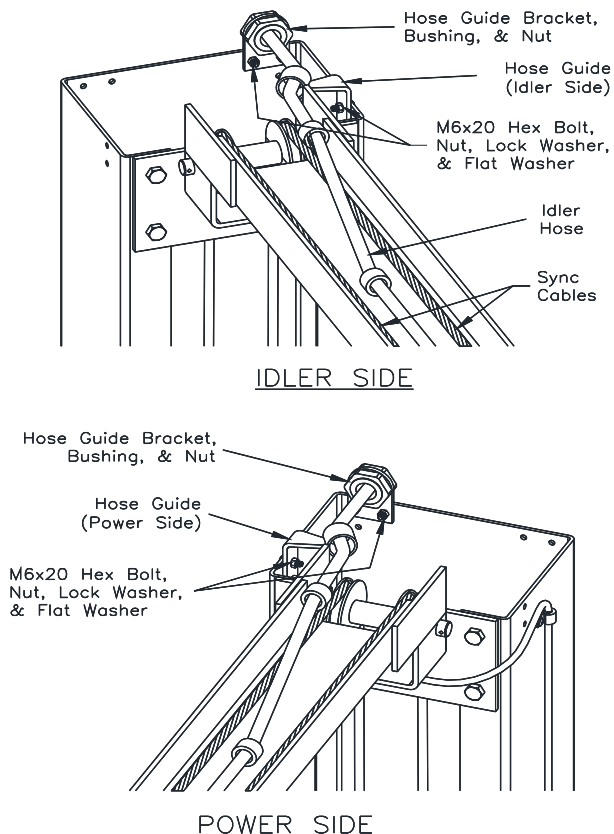

**Fig. 7 – Hose Routing**
- Attach bolt-on parts to column extensions as shown in **Fig 7** and assemble to columns using M12 x 30 Hex bolts. Ensure power extension assembly is bolted to power column. NOTE: Install Nut and Washers on exterior of the assembly.
- 19) Mount Power Unit to power column as shown in **Fig 7** using (4) M8 hex bolts and nuts.
- 24) Route the power hose from the cylinder elbow fitting to the union tee provided. Connect idler hose and power unit hose to union tee as shown in **Fig 7**.
- 25) Use hose clamps and M8 Screws to secure hydraulic hoses as shown in **Fig 7**.